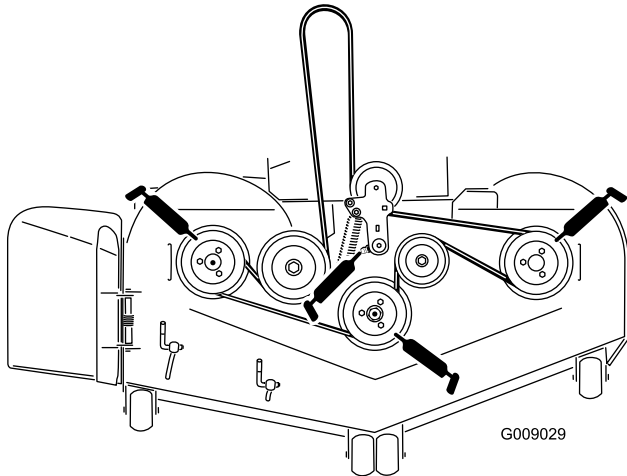

Figure 42
3. Grease the mower deck idler pulley pivot until grease come out the bottom (Figure 42).
4. Grease the fittings on the top of the 3 spindle bearings until grease come out the bottom (Figure 42).
5. Grease the drive belt idler arm (Figure 42).